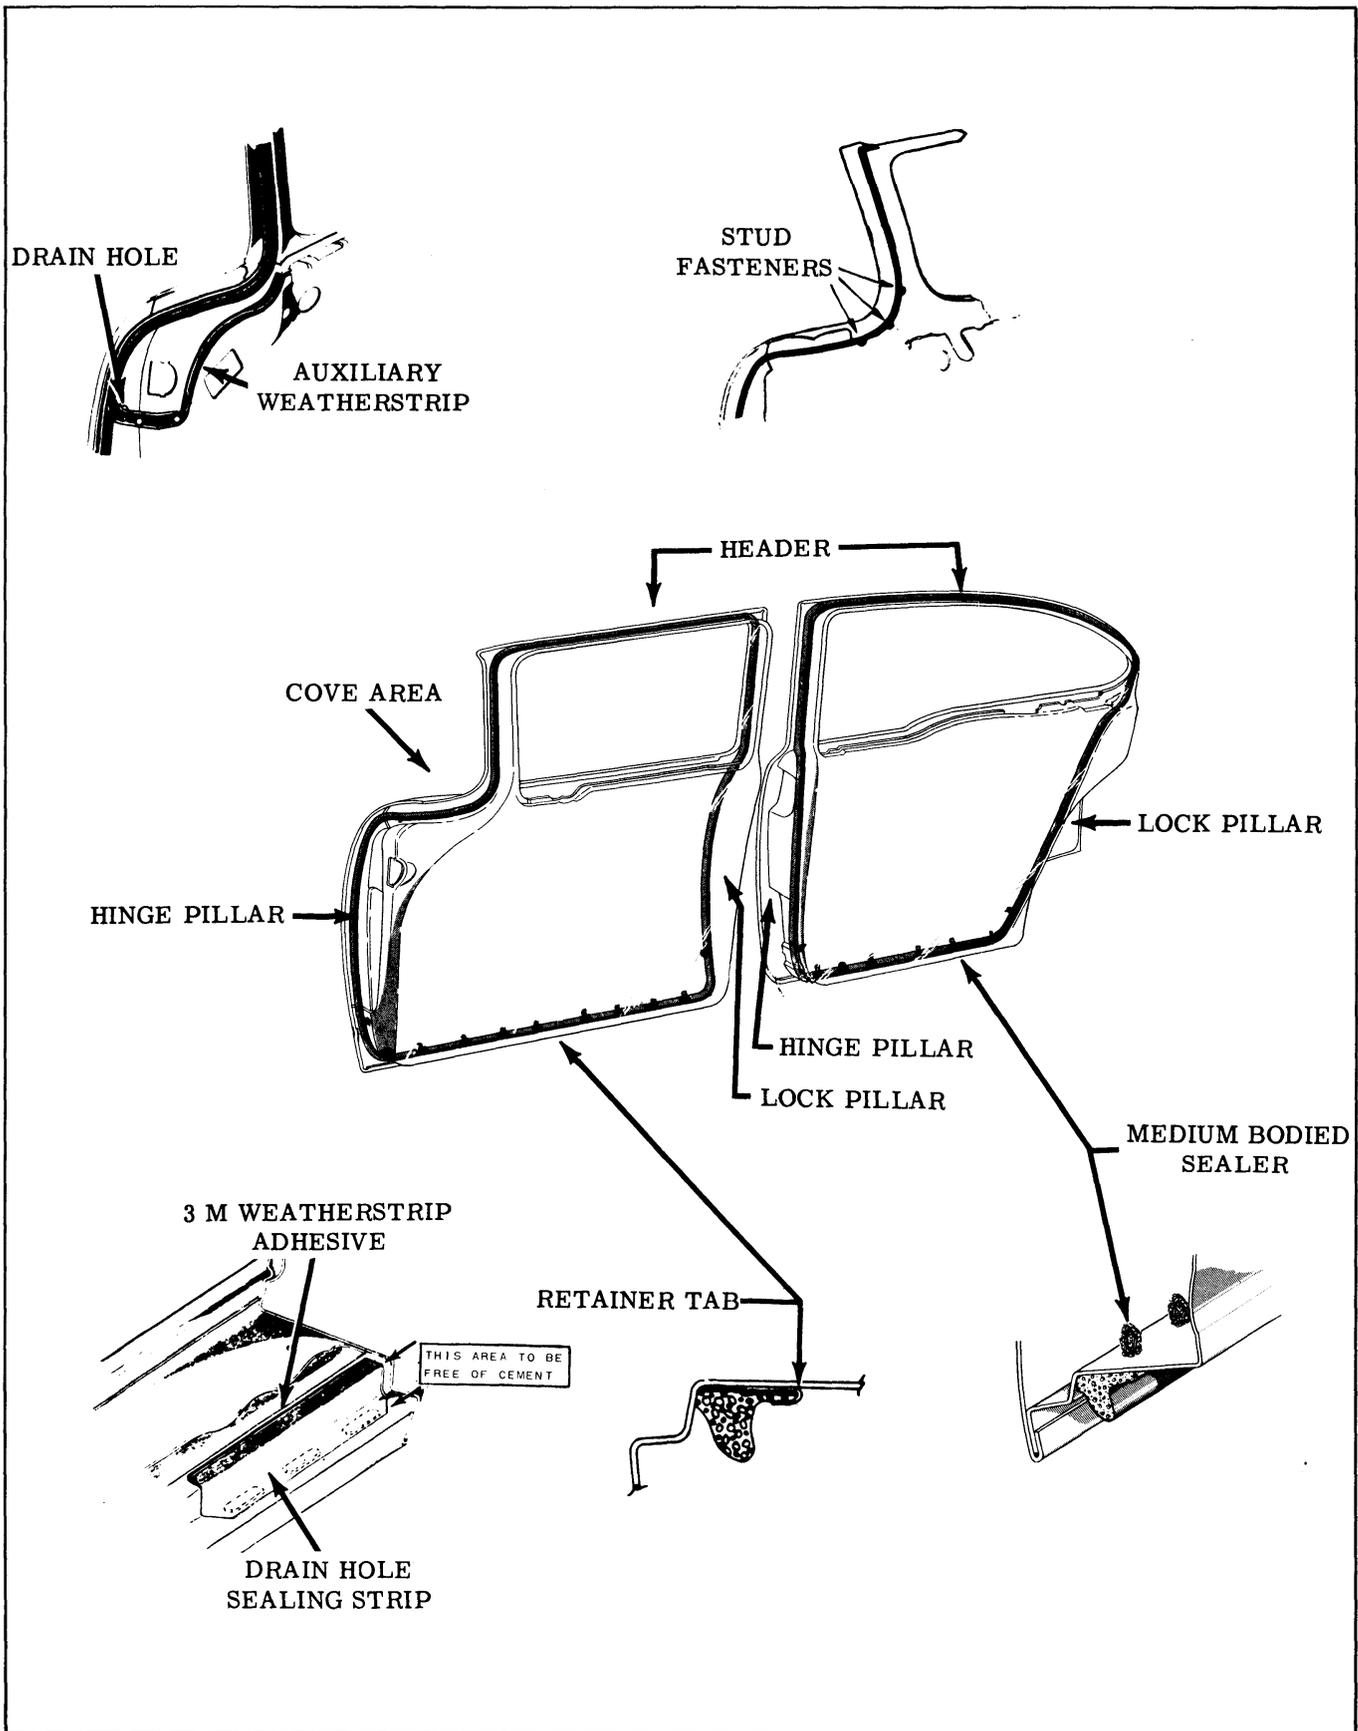

Fig. 17-27 Door Weatherstrip
2. If the door drain hole sealing strips were removed, cement the strips to the door as shown in Figure 17-27.